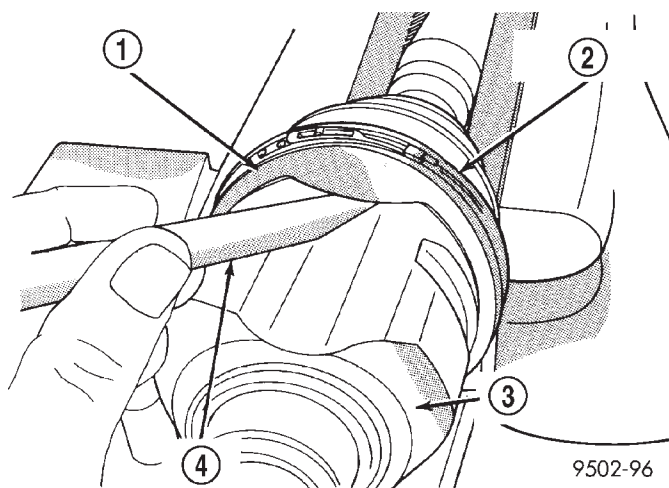

Fig. 36 Trim Stick Inserted for Venting Tripod Joint
(9) Insert a trim stick between the tripod joint and the sealing boot to vent inner tripod joint assembly (Fig. 36). **When inserting trim stick between tripod housing and sealing boot ensure trim stick is held flat and firmly against the tripod housing. If this is not done damage to the sealing boot can occur.** If inner tripod joint has a Hytrel (hard plastic) sealing boot, be sure trim stick is inserted between soft rubber insert and tripod housing not the hard plastic sealing boot and soft rubber insert.
(10) With trim stick inserted between sealing boot and tripod joint housing, position the interconnecting shaft so it is at the center of its travel in the tripod joint housing. Remove the trim stick from between the sealing boot and the tripod joint housing. **This procedure will equalize the air pressure in the**